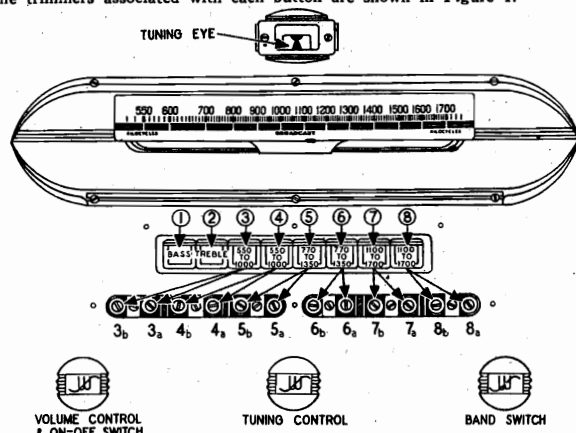

Fig. 1
3. Make a list of the frequencies, of six nearby stations to which you wish to set-up the buttons. Be sure to select nearby, powerful stations, since weak signals will generally give poor results. Also BE SURE TO SELECT STATIONS FALLING WITHIN THE TUNING RANGE OF THE INDIVIDUAL BUTTONS, as indicated in Fig. 1.
Each of the buttons on your Push Button Tuner has a definite operating range, as shown in Fig. 1, therefore, it is imperative that you select a station whose frequency is in the operating range of a button before attempting to set-up that button for the particular station.
AS THE ADJUSTING SCREWS SHOULD NEVER BE TOO LOOSELY OR TOO TIGHTLY ADJUSTED, IT IS IMPORTANT THAT THE PROPER BUTTON BE SELECTED. The frequencies of your local stations may be obtained from your newspaper or radio call magazine. For example, suppose you want to set a button to station WLW whose frequency is 700 kilocycles. Refer to Fig. 1 which shows that this frequency falls within the operating range of buttons No. 3 or No. 4, whose range is 550 to 1000 KC. Therefore either button No. 3 or No. 4 can be used for the automatic tuning of WLW.
4. Remove the escutcheon around the push-button by taking out the six screws holding it to the cabinet. This will expose to view twelve adjusting screws, each pair of which is used to tune a button to its correct station. The trimmers associated with each button are shown in Figure 1.
7. Now push in the third button from the left (No. 3 in Fig. 1). Using a small screw driver insert it in the second screw from the left (No. 3a in Fig. 1). Rotate the screw SLOWLY until the program that you have previously tuned in manually is again tuned in. If it cannot be heard, advance the volume control. BE SURE THAT YOU ADJUST THIS PARTICULAR SCREW (3a) TO THE POINT WHERE THE TWO OPEN ENDS OF THE INVERTED "V" SHADOW IN THE "TUNING EYE" ARE CLOSEST TOGETHER. It is advisable that you turn the screw in and out so that it will tune across the station several times in order that you may be sure that you have located this correct tuning point.
8. Next insert the screw-driver in the first screw on the left (No. 3b Fig. 1) and turn it until the program is received with maximum volume. The correct position is indicated by the ends of the inverted "V" in the "Tuning Eye" being closest together. Now go back to screw No. 3a and see if any im-
2. By referring to Fig. 1, determine the dual trimmer associated with the button whose range you wish to change.